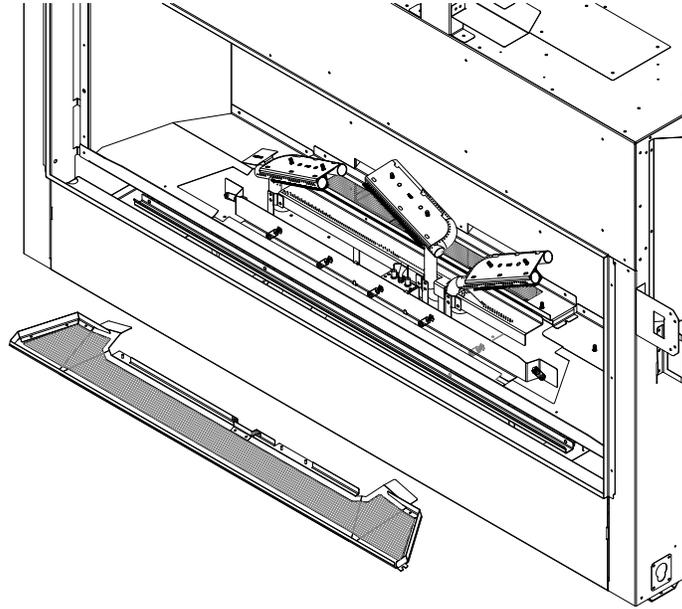

Figure 8.3 - Ember Media Tray Removal
3. Remove and retain (2) screws from the front ember media tray. Lift tray up and out of firebox. See Figure 8.3.
4. Install (7) halogen bulbs (included in components packet) into the lamp bases.